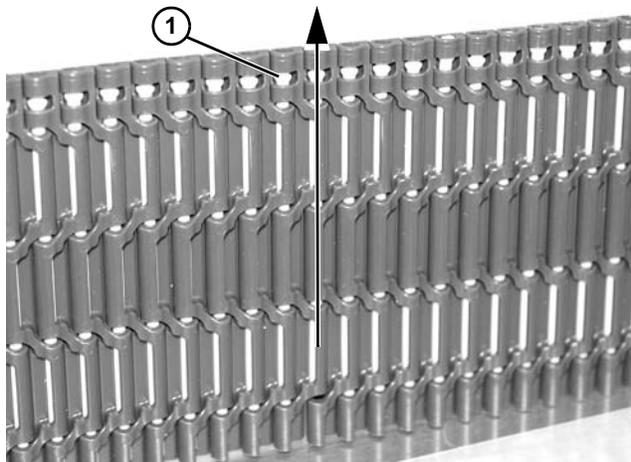

**Figure 162**
9. Remove four socket head screws (**Figure 162, item 1**) holding wear bar assembly (**Figure 162, item 2**) onto power transfer.